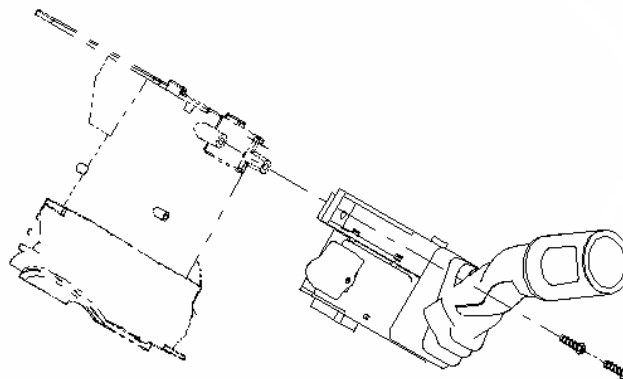

Figure 4
7. Install new switch assembly and connect electrical connector. See **Figure 4**.